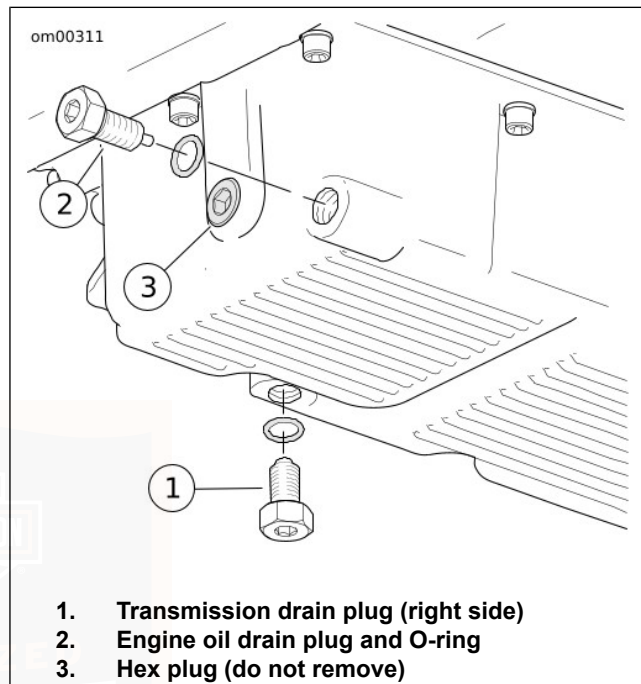

Figure 49. Oil Pan
3. See Figure 49. Remove the oil drain plug (2). Do not remove hex plug (3) or transmission drain plug (1). Allow oil to drain completely.
2. See Figure 49. Remove transmission drain plug (1) and drain lubricant into a suitable container.